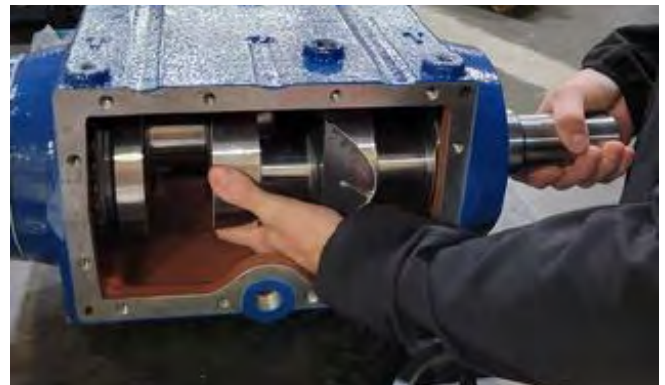

Figure 133: Remove Crankshaft from Pump.
10. Pull the crankshaft out of the pump and place on workbench as needed. The crankshaft weight is 50 lbs (23 kg) (Figure 133)